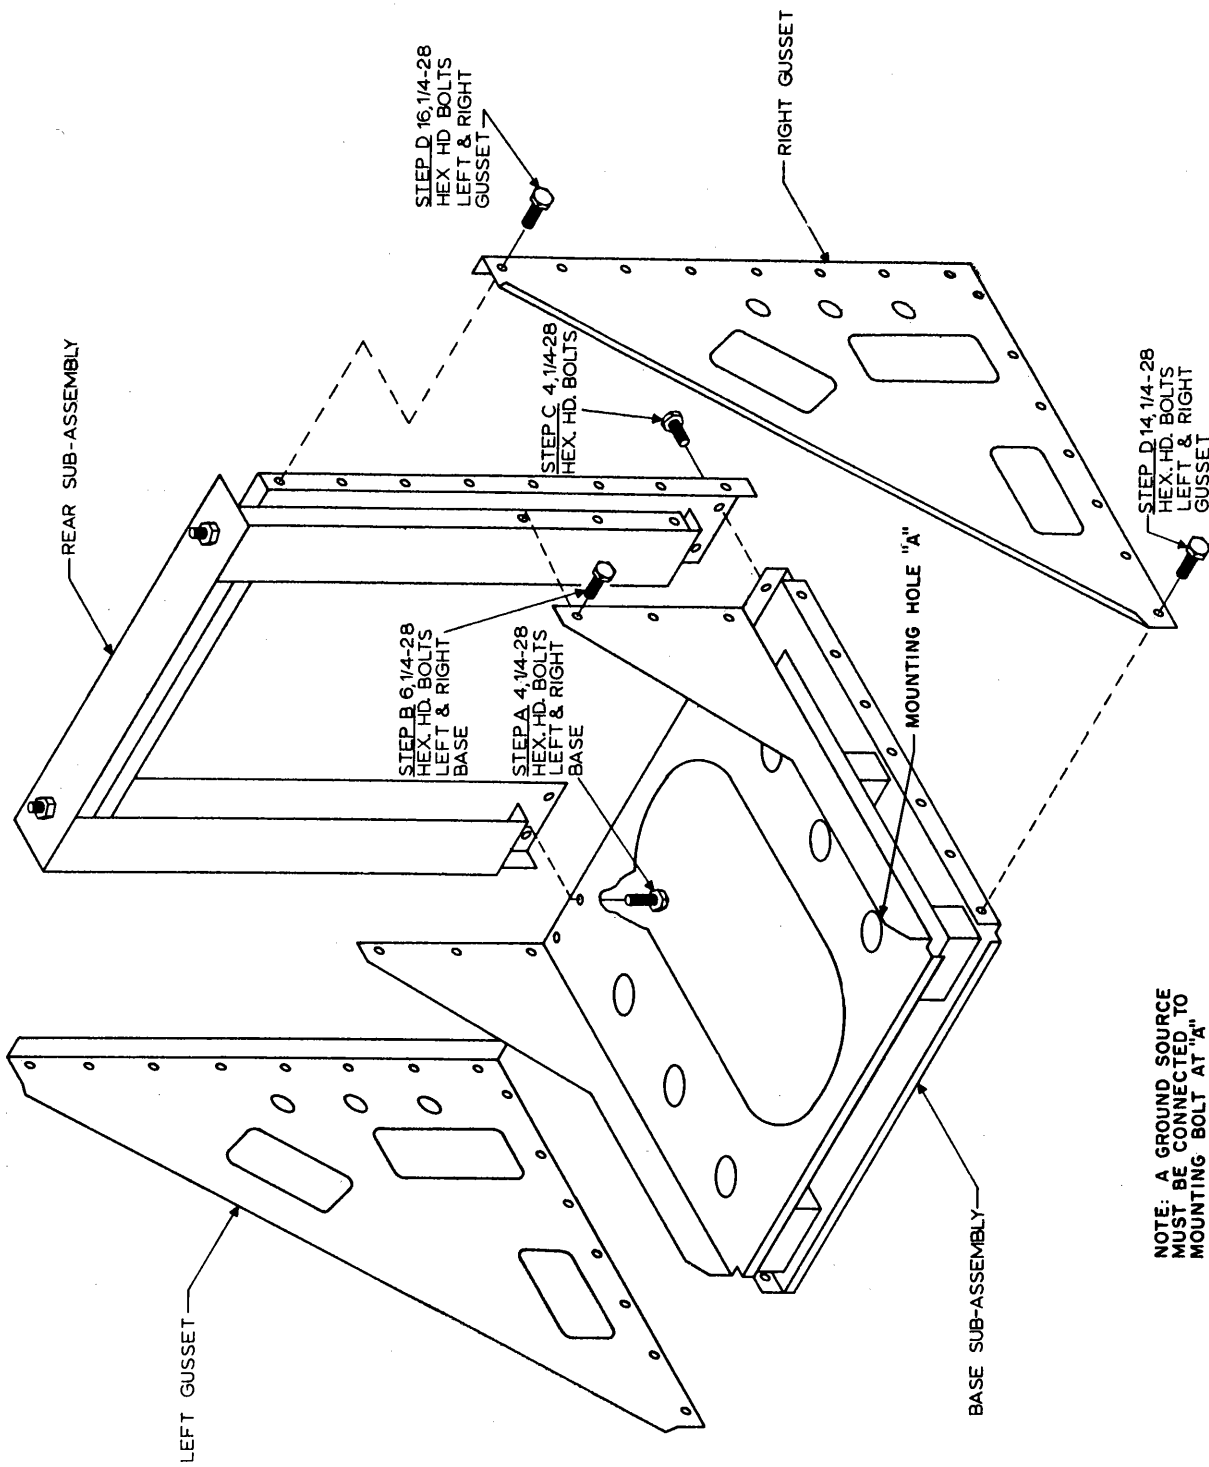

Figure 2-7. Mounting MT-2293A/WRR-2, Assembly Details
For safety of personnel, cabinet must be grounded. For AN/WRR-2A receiver, mounting bolt (see figure 2-7) grounds to a metal table. A wood table will require a ground wire. For AN/FRR-59A receiver, flange plates ground cabinet to rack which in turn must be grounded.
**b. MOUNTING CRADLE (FOR AN/WRR-2A ONLY).** (See figure 2-7.)—Mounting MT-2293A/WRR-2 consists of a base, a back, and two side gussets for support. It is shipped disassembled in its own carton. Assembly and mounting procedures are as follows:
(a) Stand the rear subassembly at the rear of the base, as shown in figure 2-7. Insert four bolts upward through the tray of the base. Install four elastic stop nuts and tighten slightly.